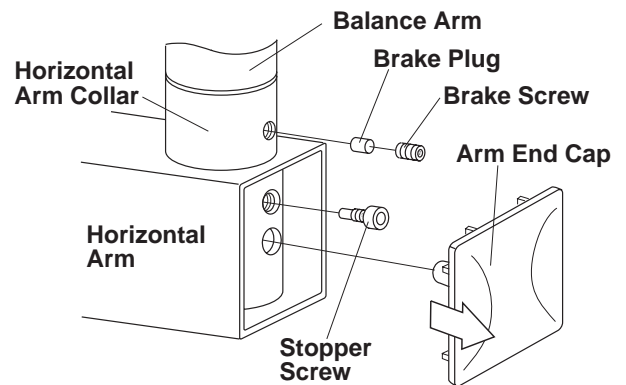

Fig.3-8 Attaching Balance Arm to Horizontal Arm
7. Insert the brake plug and brake screw (M6 x 6mm) into the horizontal arm collar. (**Fig.3-8**)
Replace the end cap. (**Fig.3-8**)